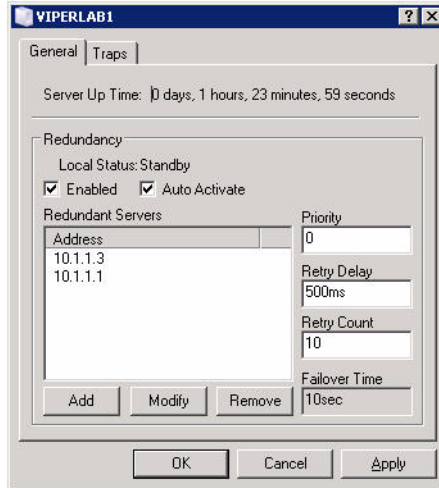

Figure C-4 VMS Server Properties, General Tab
3. From the VMS Server drop-down menu, select the **Properties** command to display the VMS Server (VIPERLAB1 in this example) dialog window shown in figure C-4.